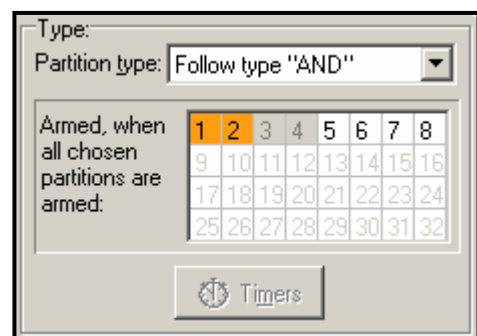

Fig. 7. Definition of FOLLOW TYPE "AND" partition.
• **Follow type "AND"** – the partition controlled by status of other partitions. This partition is not armed directly by the user, but automatically – when all partitions indicated to the control panel become armed. The list of partitions is defined by the service when creating the dependent partition. The arming time is recorded in the event log, with indication of the user who armed the last partition from the list. When any partition from the list is disarmed, the dependent partition will be disarmed as well. Figure 7 shows the selection field of partitions that control partition 3 (partitions 1 and 2 are selected, other colors of background for partitions 3 and 4 show that partitions 3 and 4 cannot be selected for controlling the dependent partition) For FOLLOW